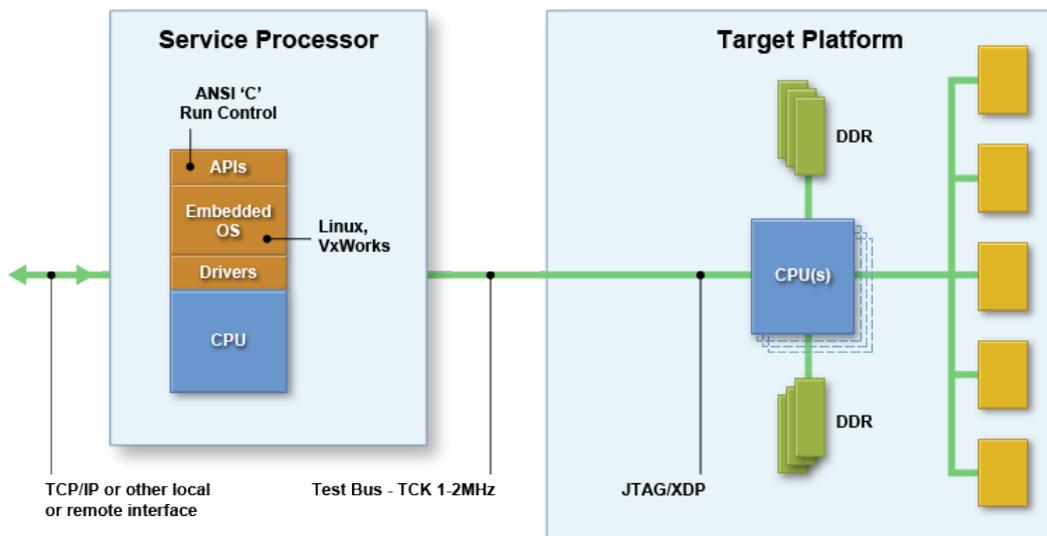
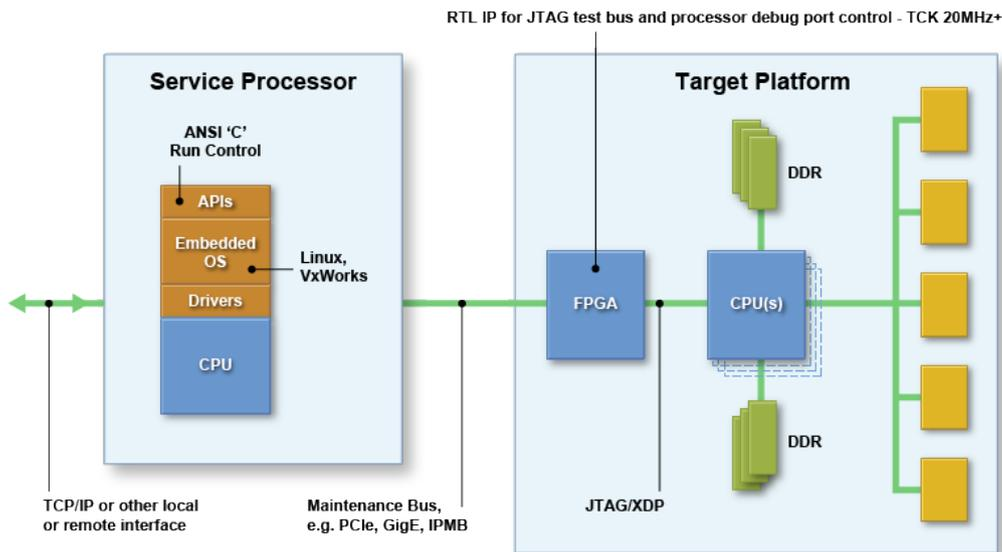

Figure 1: BMC-based SED
Figure 2: BMC + FPGA-based SED
ASSET’s ScanWorks Embedded Diagnostics (SED) solution uses an embedded implementation of ITP to provide these capabilities. Consisting of intellectual property (IP) containing an XDP run-control scan engine, combined with a portable, small-footprint library of ITP functions, SED is embedded within a system board’s service processor and linked to the board’s main processor debug port. The implementation can be within a single Baseboard Management Controller (BMC), as in Figure 1, or in larger systems, a combination of BMC and FPGA, as in Figure 2.